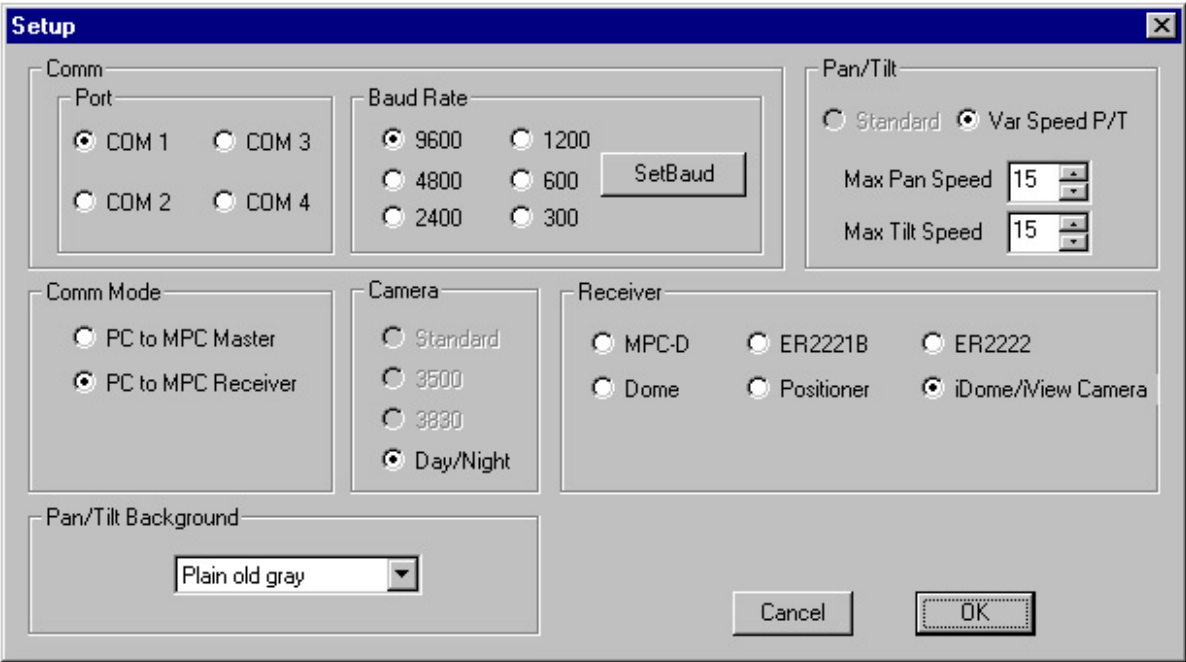

Figure 17. Win MPC Communications Functions Screen
1. Under the FUNCTION menu area of the window, click on SETUP. The Comm setup window menu should appear. Figure 17 shows the communications setup window of Win MPC. Table 5 summarized the required selections.